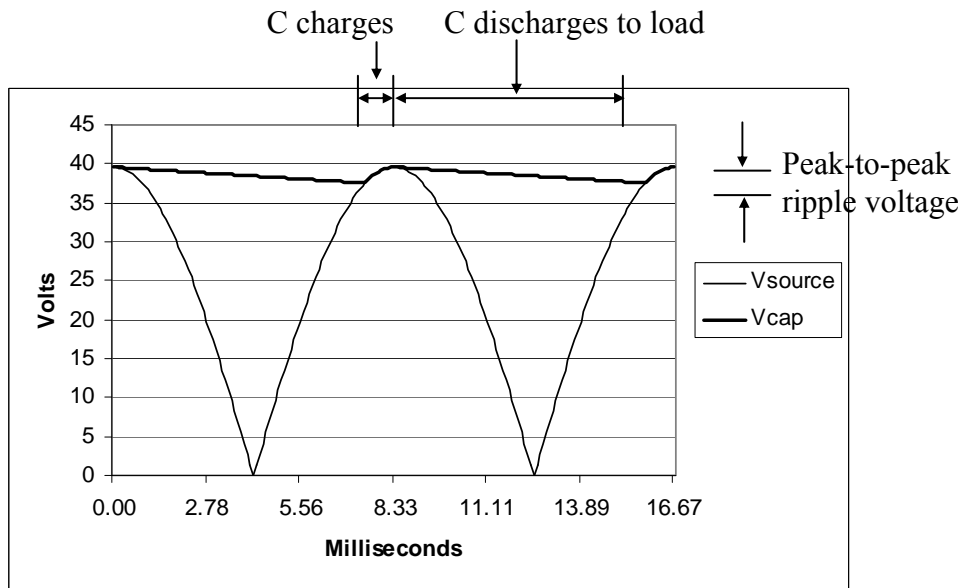

Figure 3. Impact of  $C$  on Load Voltage
the waveform for  $V_{dc}$  takes the form of  $V_{cap}$  in Figure 3.
As the load power increases, the capacitor discharges faster, the peak-to-peak ripple voltage increases, and the average dc voltage (i.e., the average value of the  $V_{cap}$  curve in Figure 3) falls. For zero load,  $V_{cap}$  remains equal to the peak of the rectified source voltage, and the ripple voltage is therefore zero.
For constant power cases, peak-to-peak voltage ripple can be computed using energy balance in the capacitor as follows. If the “C discharging” period in Figure 3 is  $\Delta t$ , where  $\frac{T}{4} \leq \Delta t \leq \frac{T}{2}$ , then the energy provided by C during  $\Delta t$  is
where  $V_{peak}$  and  $V_{min}$  are the peak and minimum capacitor voltages in Figure 3, and  $P$  is the DC load power (approx. constant). From (1),